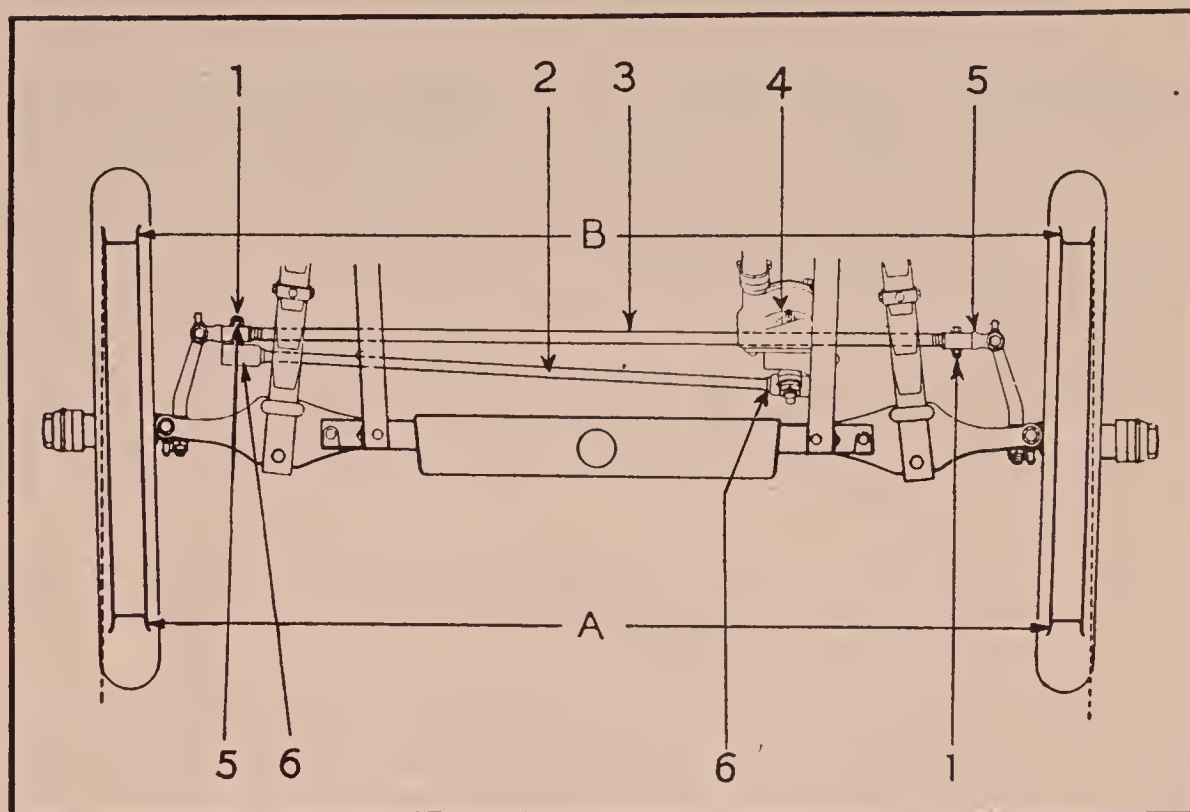
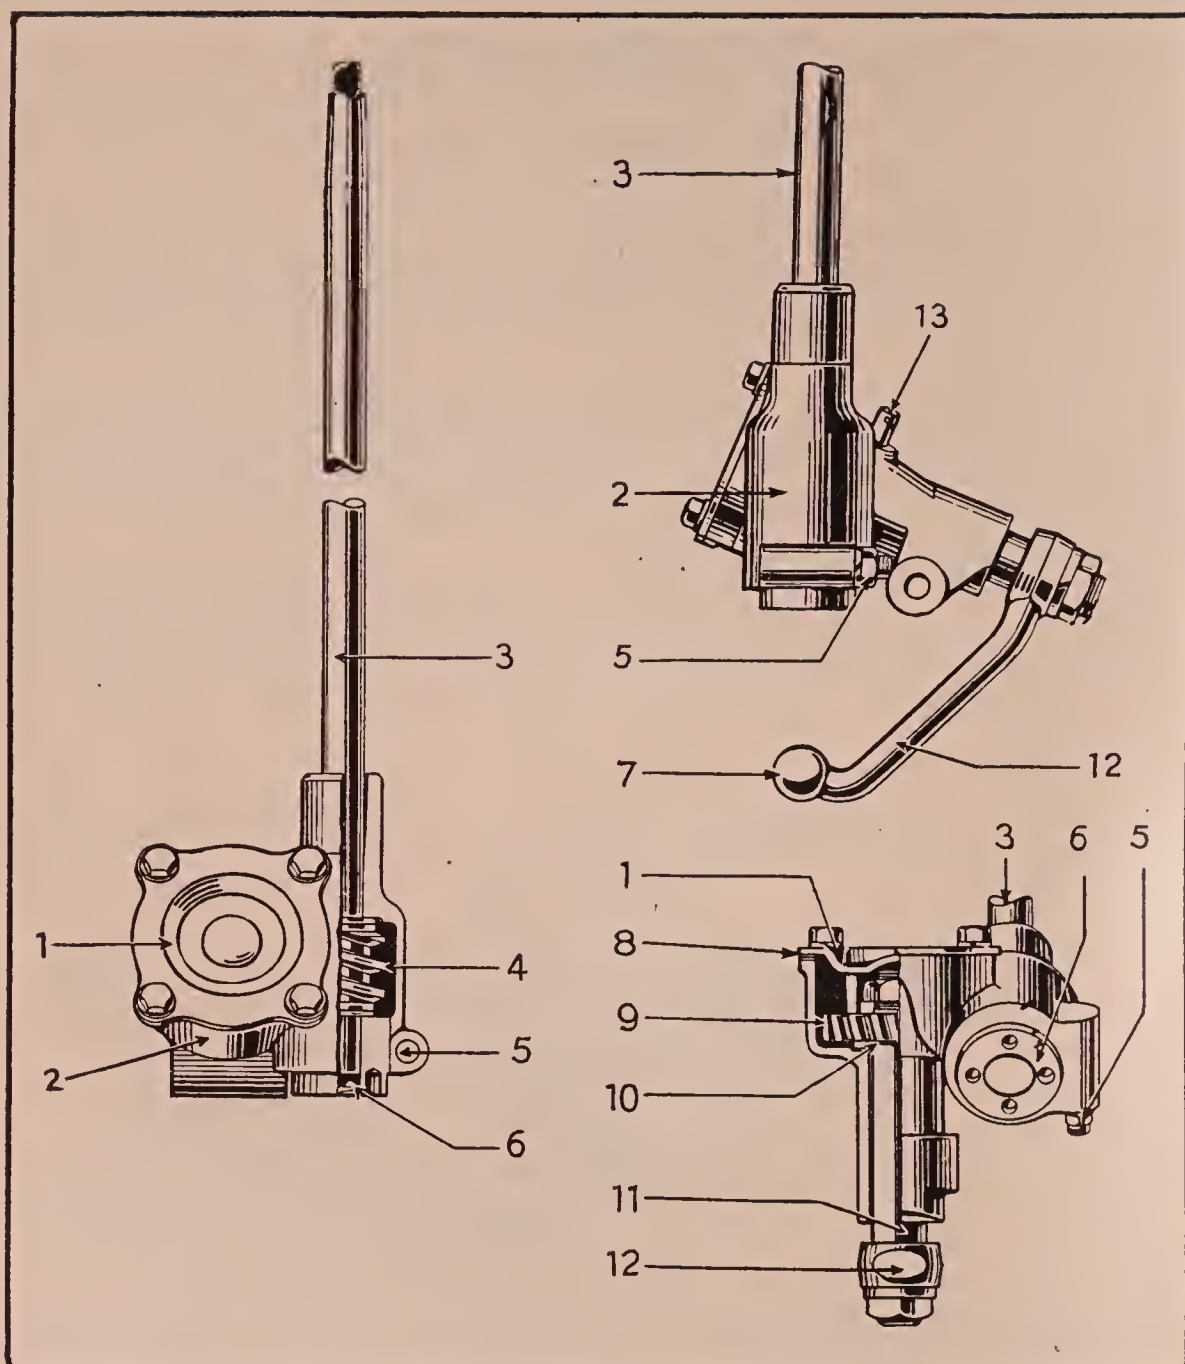

Fig. 33. Front Wheel Alignment Diagram
Fig. 35. Steering Gear
5. With a rod of metal or wood or a piece of string, at the height of the hubs, measure the distance between the inner sides of the front wheel felloes; distance A, figure 33, should be $\frac{5}{16}$ " (8. mm.), less than B.
To adjust the distance A (item 5, above), remove the steering knuckle tie-rod pin, loosen the adjusting-end clamp-bolt (1, fig. 33), and screw the yoke outward or inward respectively to decrease or to increase A. **Securely**
3. Disconnect the axle end of the steering gear connecting rod (2, fig. 33).
In replacing the springs and the ball-cups in the steering gear connecting rod, it is of the highest importance that they be restored to their original positions. The spring in the joint (6, fig. 33) at the axle end — right hand end — of the steering gear connecting rod is next to the adjusting-plug—between the latter and the steering knuckle arm ball. At the steering gear end, the steering gear arm ball (7, fig. 35) is between the spring and the adjusting-plug. In other words, the springs are placed at the right hand sides of the joints.
2. Loosen the steering worm adjusting-plug lock-bolt (5, fig. 35) and tighten the adjusting-plug (6, fig. 35), screwing it inward—toward the steering gear housing.
If all the play can not be removed by means of the adjusting-plug, remove the housing cover (1, fig. 35) and take out one or two shims (8, fig. 35), and replace the cover.